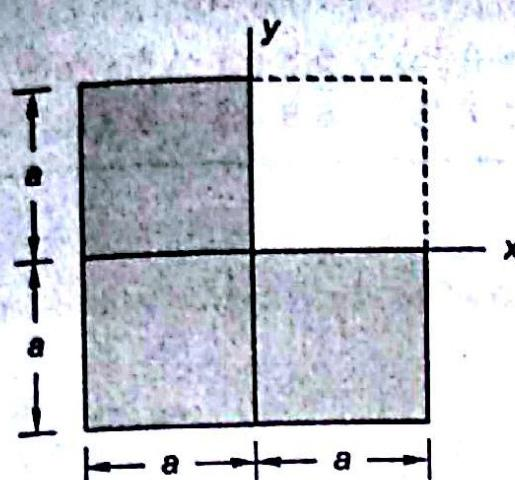

Fig. 5.18
5.5 What is \bar{x} of shaded area of a square (Fig. 5.18)?